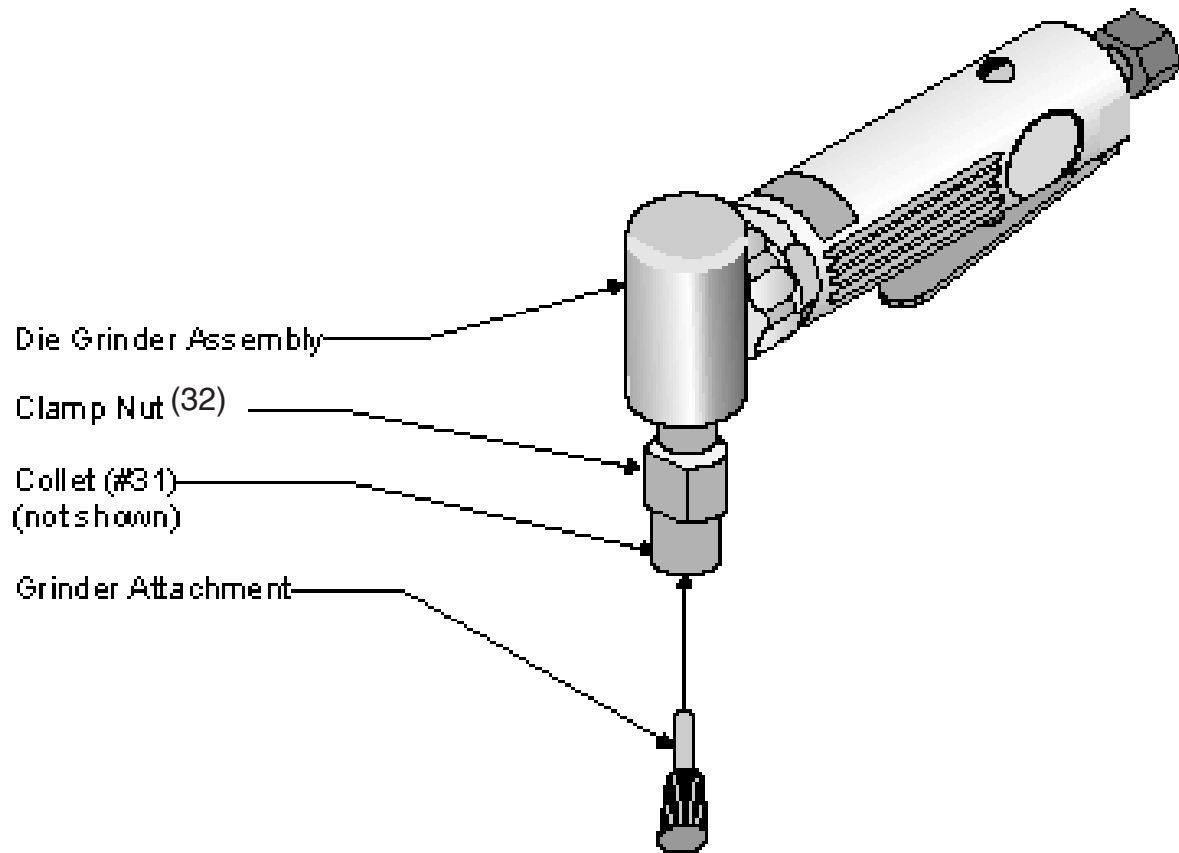

Figure 2 — Grinding Attachment
5. Insert the Shaft of the Grinding Attachment through the flared end of the COLLET as shown in Figure 2.